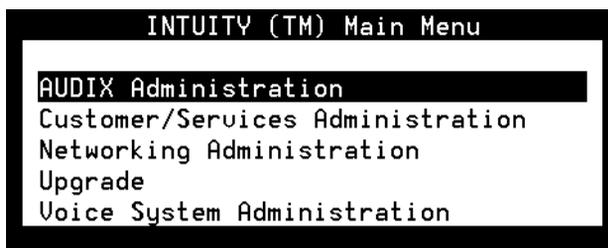

Figure 5-1. Lucent INTUITY Main Menu
- a. Start at the Lucent™ INTUITY™ Main menu (Figure 5-1).